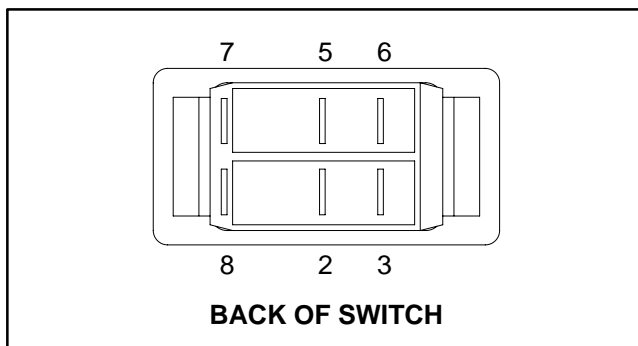

Figure 13
2. The switch terminals are marked as shown in Figure 13. In the ON position, continuity should exist between terminals 2 and 3. In the momentary SET position, continuity should exist between terminals 5 and 6. In the OFF position, there should be no continuity between any switch terminals.